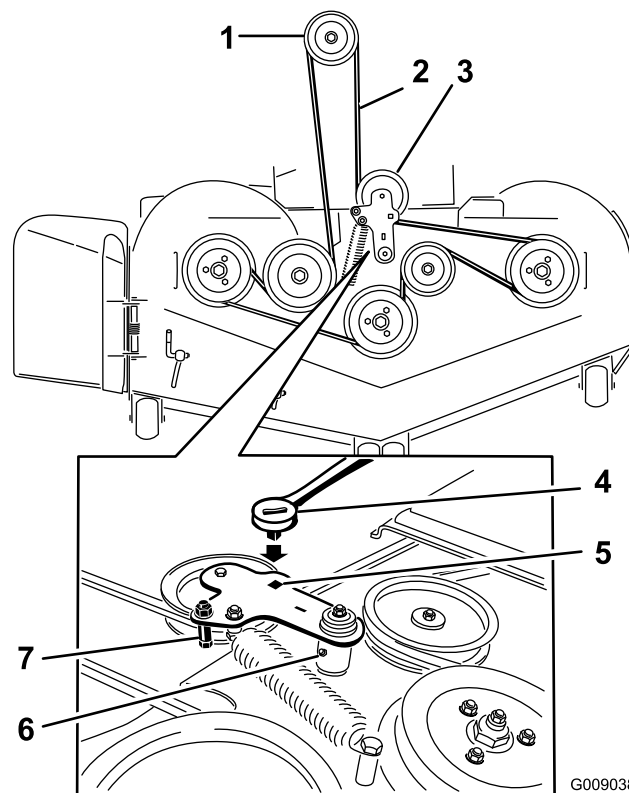

Figure 78
5. Use a ratchet in the square hole in the idler arm to remove tension on the idler spring (Figure 78).
7. Remove the belt guide on the spring loaded idler arm shown in Figure 78.
9. Install the new belt around the mower pulleys and the clutch pulley under the engine (Figure 78).
10. Install the belt guide on the idler arm shown in Figure 78.
11. Using the ratchet in the square hole, install the idler spring (Figure 78).